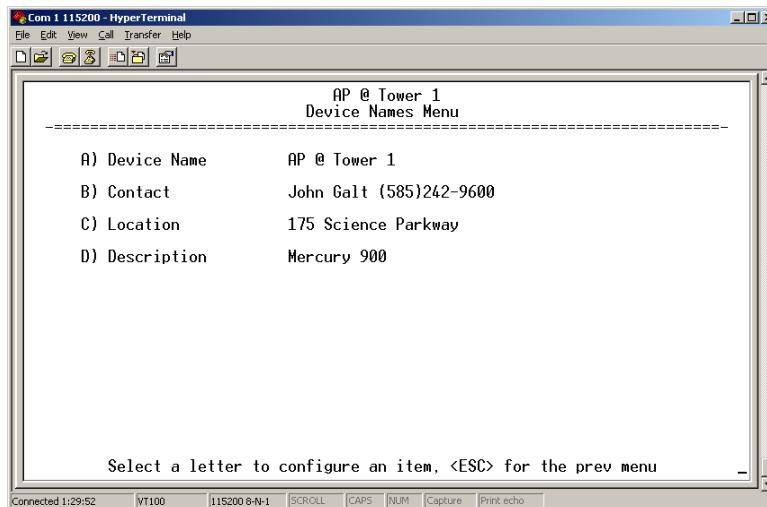

Figure 3-82. Device Names Menu
- **Device Names**—Fields used at user's discretion for general administrative purposes. The Device Name field is shown on all menu screen headings. (See Figure 3-82 on Page 112)